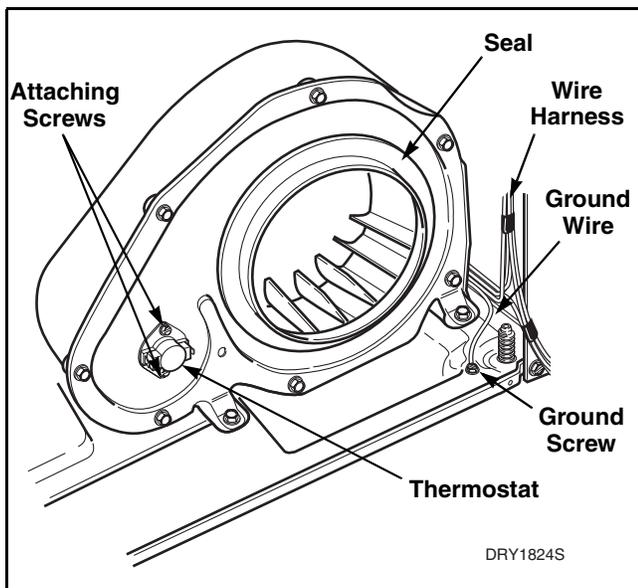
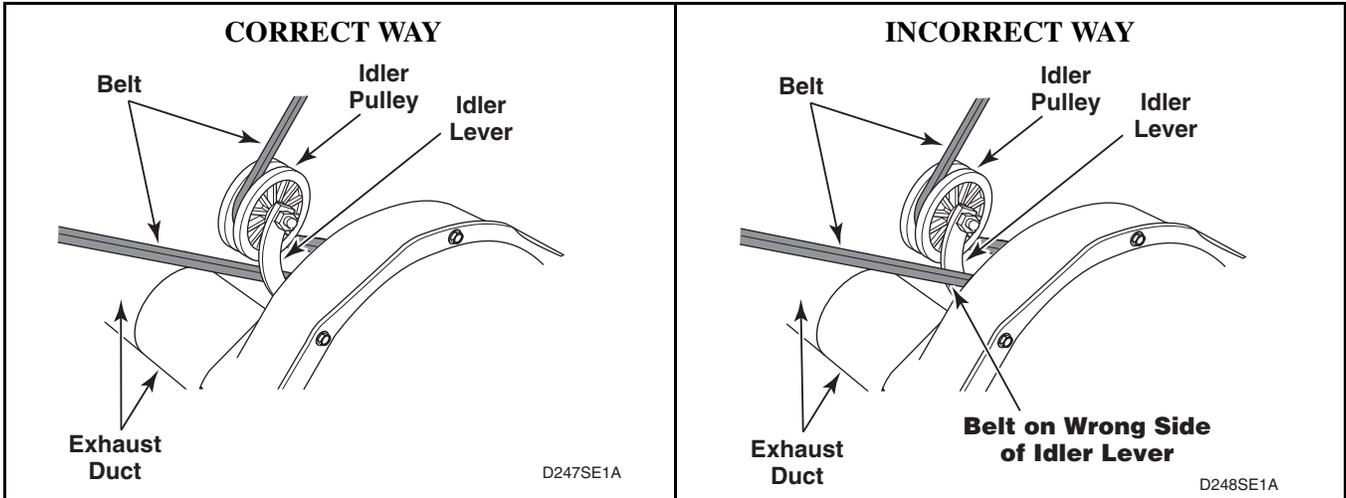

Figure 22
Figure 25
- c. Disconnect wires and remove thermostat attaching screws. Refer to *Figure 22*.
IMPORTANT: When reassembling, be sure seal on blower fan cover makes airtight seal on flange of duct. Refer to *Figure 22*. If the seal is installed improperly, the airflow through the exhaust system will be restricted which can adversely affect dryer performance.
IMPORTANT: When reassembling, be sure seal on blower fan cover makes airtight seal on flange of duct. Refer to *Figure 22*. If the seal is installed improperly, the airflow through the exhaust system will be restricted, which can adversely affect dryer performance.
- Remove cylinder belt from idler and motor pulleys. Refer to *Figure 25*.
IMPORTANT: When reinstalling motor and exhaust assembly, be sure wire harness on right side is clipped to motor mounting bracket and is routed along dryer base (between motor mounting bracket and right side of cabinet). Refer to *Figure 22*. Tab on rear of motor mounting bracket must be slid into slot in dryer base. Be sure the belt has been installed on the correct side of the idler lever. Refer to *Figure 25*.
- e. Disengage belt from motor and idler pulley. Refer to *Figure 25*.